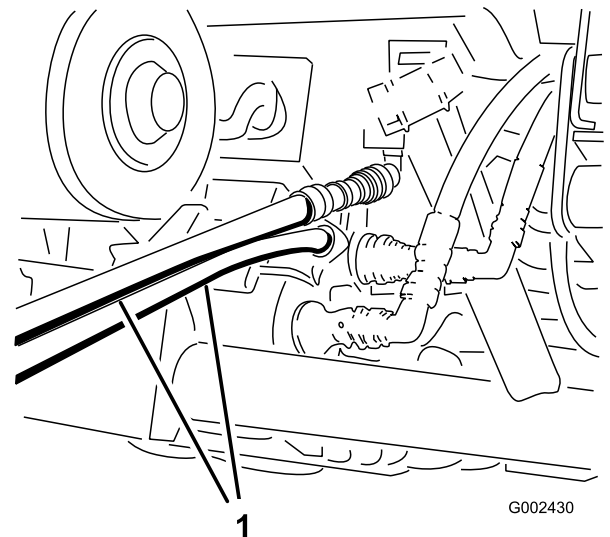

Figure 81
- On the other vehicle, connect the two hoses to the coupler still in the coupler bracket (Connect the top hose to the top coupler and the bottom hose to the bottom coupler (Figure 81). Cap unused fittings.